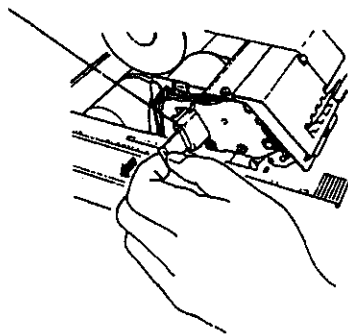

Fig. 4
2. Withdraw the store name stamp with the protruding part pinched between your fingers (Fig. 4).